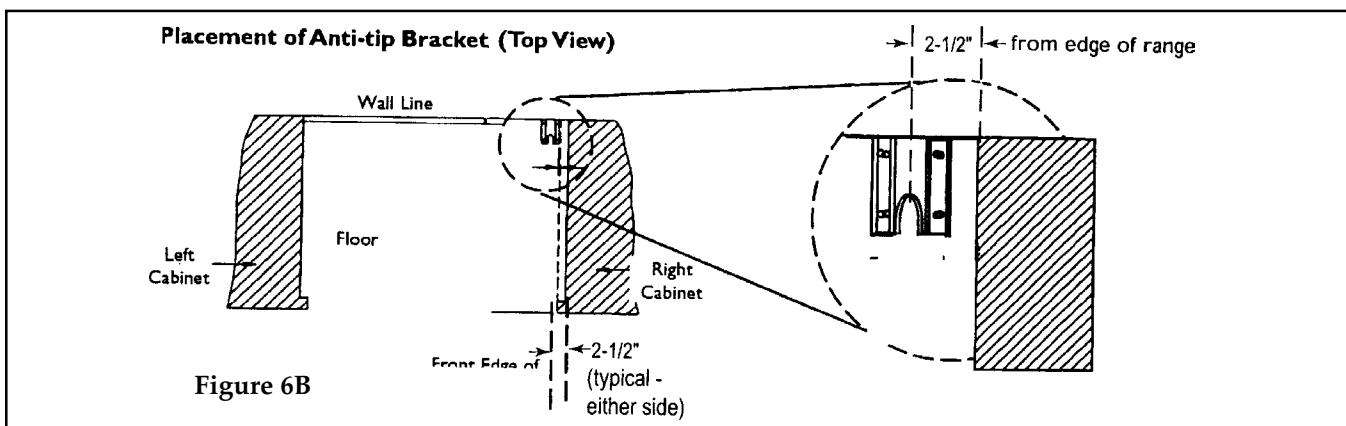

Figure 6B
- a) Place bracket on floor in position shown in Figure 6B.